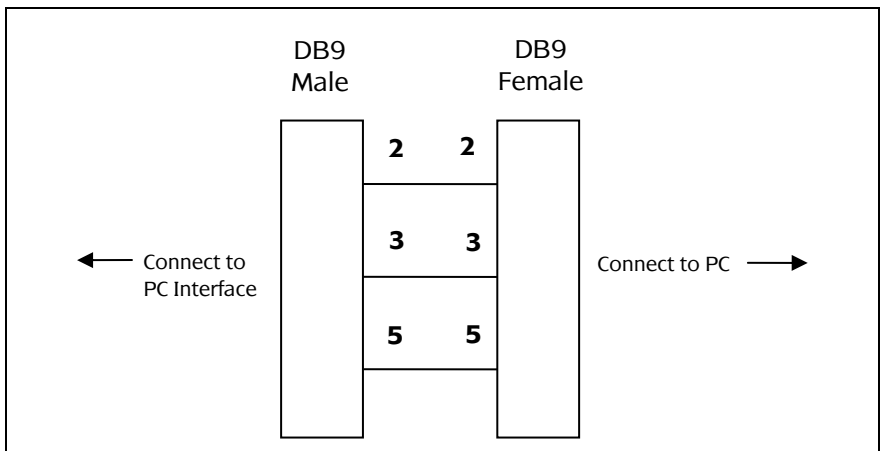

Figure 10 – RS-232 serial cable modification
- Modify the RS-232 serial communication cable so that only three wires connect between the C-Bus 5100T Series unit and the computer; the Transmit (TXD), Receive (RXD) and Signal Ground (COM) wires. Refer to Figure 10.